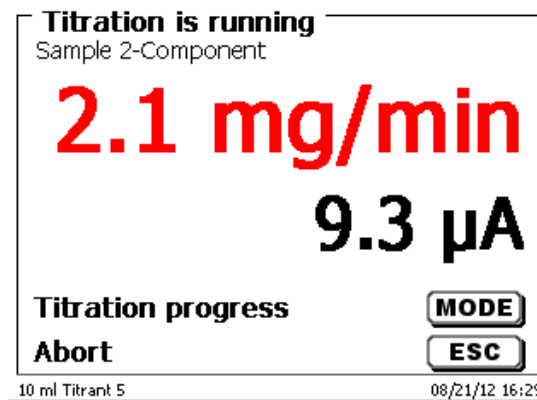

Fig. 53
- or the drift with the measured value in μA (Fig. 53),